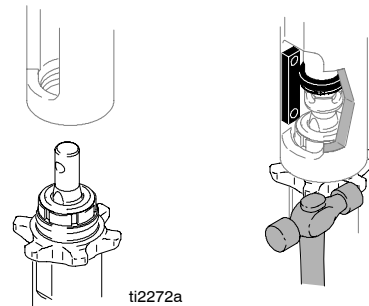

Fig. 14
2. Fig. 14 – 16. Install pump.
1. Fig. 14. Screw jam nut to bottom of pump threads. Screw pump completely into manifold. Unscrew pump from manifold until pump outlet aligns with hose. Hand tighten jam nut, then tap 1/8 to 1/4 turn with hammer or torque to 200 ft-lb (270 N·m).